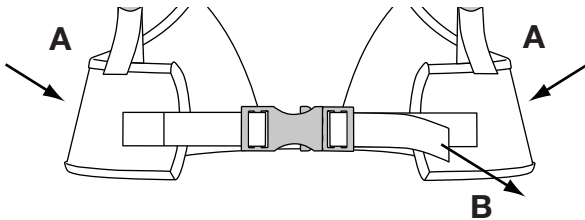
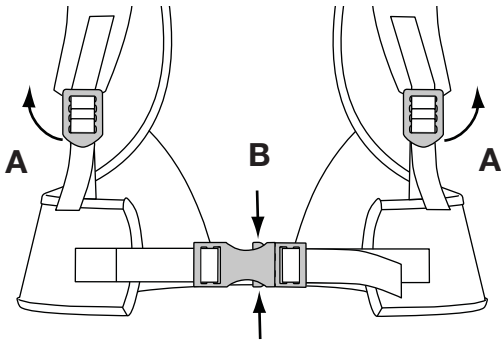

Fig. 18
Fig. 19
NOTE: Make sure the weight of the unit is supported on the hips by the waist support (Fig. 18, A).
3. If weight is not on hips, loosen the shoulder supports (Fig. 19, A) and pull the waist support handle (Fig. 18, B) to tighten. Adjust until the unit's weight rests on the hips.
1. To release the shoulder supports, pull up on bottom tab of the shoulder support buckles (Fig. 19, A).
2. Squeeze the top and bottom of the waist support clips to release the waist support (Fig. 19, B).